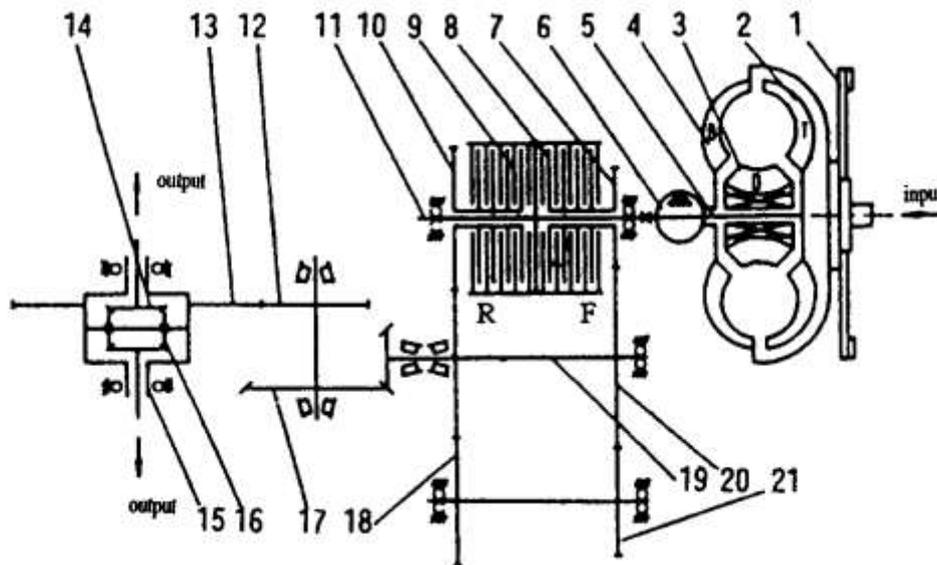

Fig. 2-2 YQX18/25/30 model hydrodynamic transmission gear box sketch
3.2 hydraulic oil pipe system (see fig 2-2)
Fig.2-2 oil route for YQX18/25/30 model hydrodynamic power transmission gear box